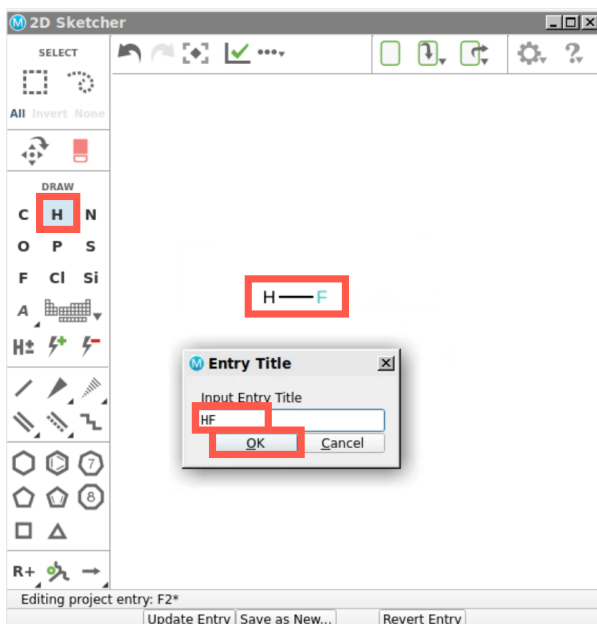

Figure 5-7. Drawing and saving HF.
- Replicate the sketch shown in Figure 5-7 as closely as possible.